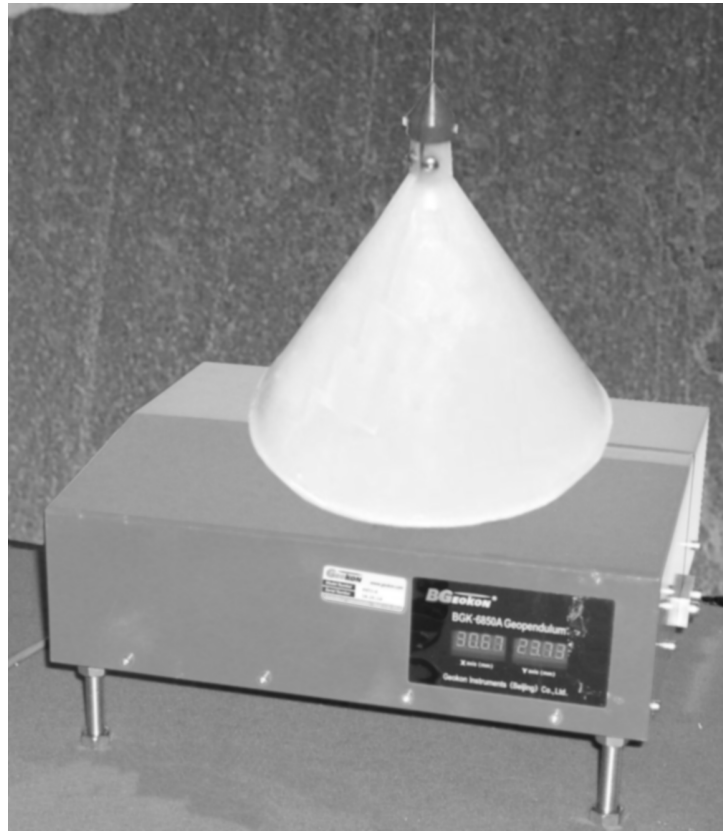

Figure 24 - Conical Drip Shield Installed
- 32) If a conical drip shield was purchased, use the wrench provided to tighten the nylon set screws onto the pendulum wire. Leave about a 2.5 cm gap between the shield and the cabinet (Figure 24).